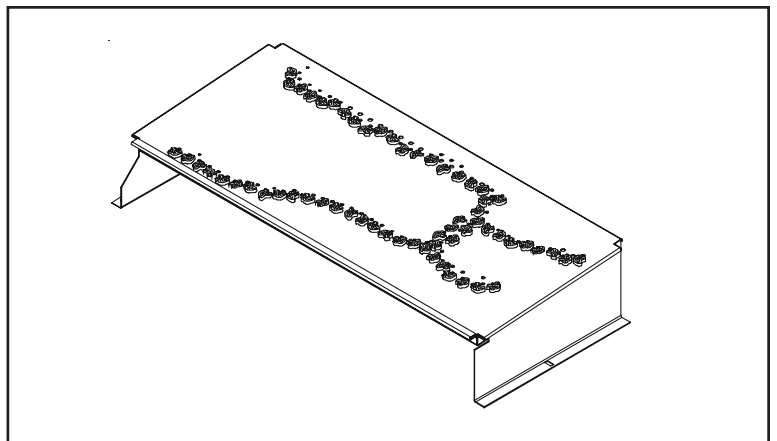

Figure 34. Placement of the Ember Material
- Place small pieces of ember material on burner top (Figure 34). Do NOT press embers into burner ports. Cover the top of the burner with a single layer of ember material. Do NOT place embers on the ports as noted in Figure 34.